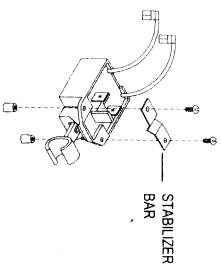

FIGURE 3
- (3) Clean motor housing seal, making sure surfaces are smooth. Install new switch and stabilizer bar. Tighten screws (12 in. #). Note stabilizer bar's rib must touch switch assembly between mounting holes (see Fig. 3). Check for free movement of the switch arm up and down. If there is any resistance other than the switch snap, replace the arm and seal assembly.
- (4) With a volt-ohms meter (Set at RX1), check between each of the two (2) thru-wall terminals and motor shell for resistance. If any resistance (needle should not move) is measured, take to an Authorized Service Station for repair. Also, check between the ground pin terminal at the plug and motor housing with volt-ohms meter (Set at RX1). There should be no resistance (needle should move to (0)). If a resistance is measured or there is no needle movement, repair as needed or take to an Authorized Service Station.